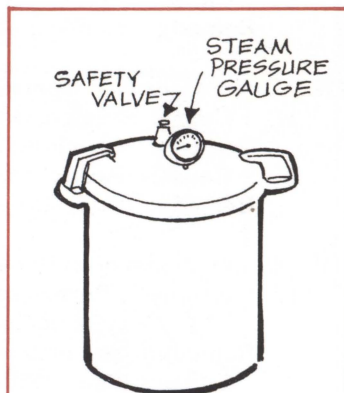

Fig. 62
1. After each use, clean pressure cooker (Fig. 62) as you would clean any aluminum utensil. Wipe inside of lid with a damp cloth. Handle lid carefully and never put in water. Leave lid off the cooker when not in use; storing it closed causes the aluminum to pit and discolor.
Caution: Unless this is done you have no safety protection. Safety valve should "pop off" between 16 and 20 pounds' pressure; if it does not "pop off" force spring down to loosen slightly. A new spring may be needed. Clean pet cock (Fig. 62) with fine steel wool.
3. **Caution:** Never open cooker without first making sure that the gauge registers "zero," and that the pet cock is open and all steam escaped (Fig. 62). Cool gradually and always open lid away from you.
6. Have pressure gauge (Fig. 62) tested whenever possible. If it fails to return to "zero," it should be adjusted by the manufacturer, or replaced with a new gauge.